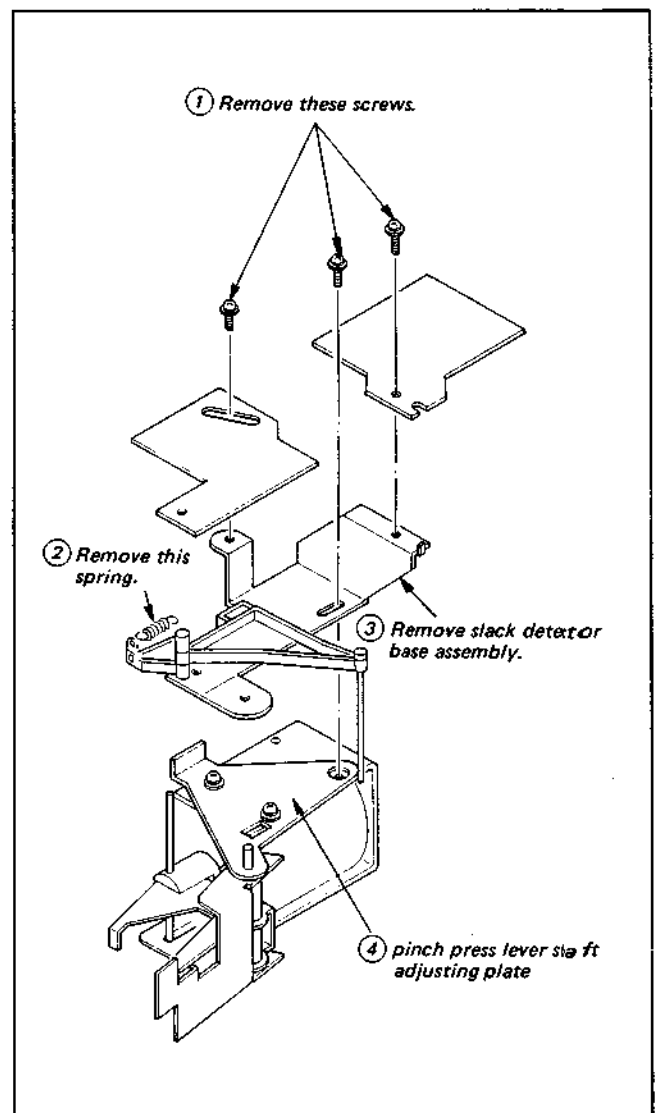

Fig. 3-31. Disassembly
2. Perform Steps ① to ③ shown in Fig. 3-31 so as to set up the state in which the screw of pinch press lever shaft adjusting plate ④ can be loosened.
6. Reverse Steps (1) to (3) shown in Fig. 3-31.